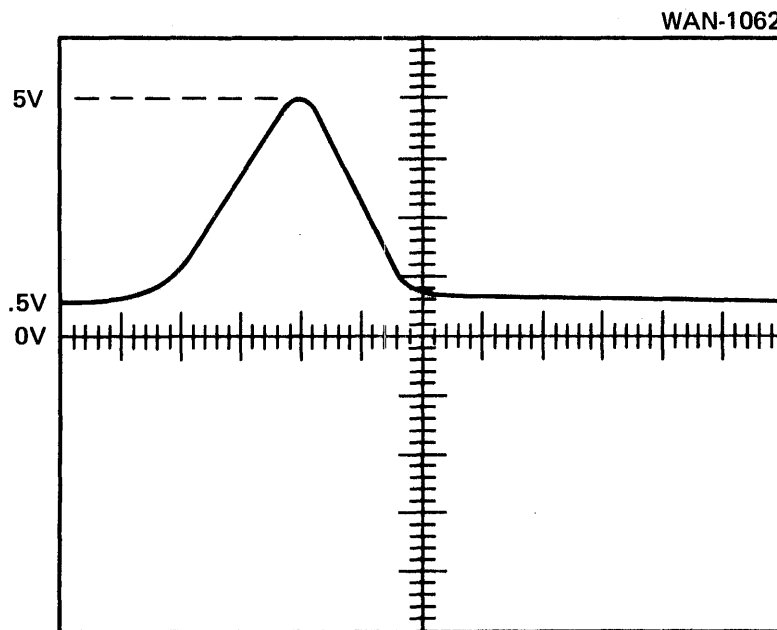

Figure 5-31. BOT Analog Amplitude Output
- K. Adjust AGC ADJ. potentiometer (R96) until BOT ANALOG AMP output is +5V with reference to ground. See Figure 5-31.